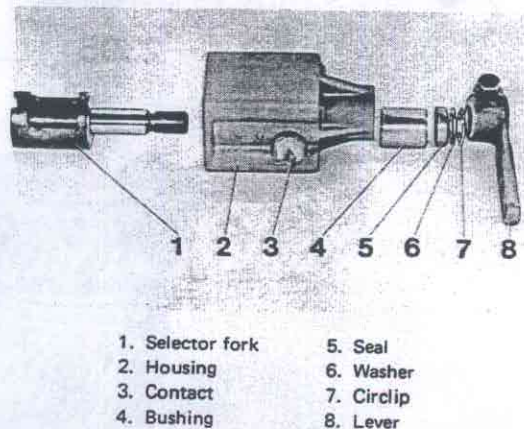
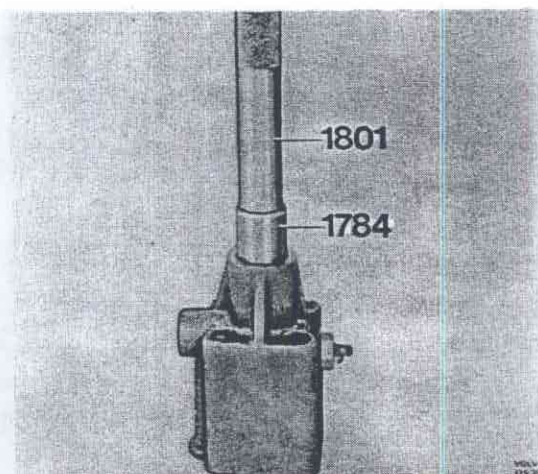

Fig. 43-97. Outer selector shaft housing
Fig. 43-98. Pressing in bushing
1. Oil the bushing (4 Fig 43-97) and press it into the housing with 1801 + 1784, Fig. 43-98.